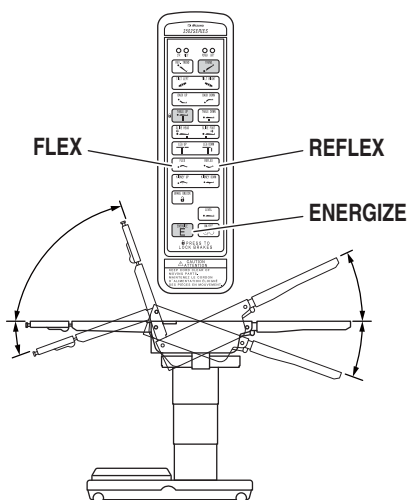

Figure 2-15. Flex/Reflex Positioning
h. Flex Positioning To place the table top in a flex position from horizontal, press the ENERGIZE button and then the FLEX button (figure 2-15). To return the table top to a horizontal position or into a reflex position, press the ENERGIZE button and then the REFLEX button.